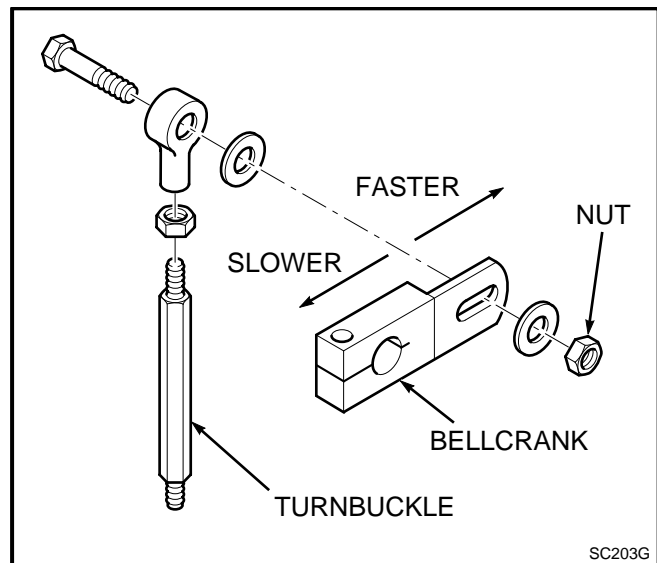

Figure 4
2. Locate the turnbuckle for LH pump under the operator seat in front of the hydraulic oil tank. (See Figure 4)
3. Loosen nut securing turnbuckle to bellcrank. (See Figure 4)